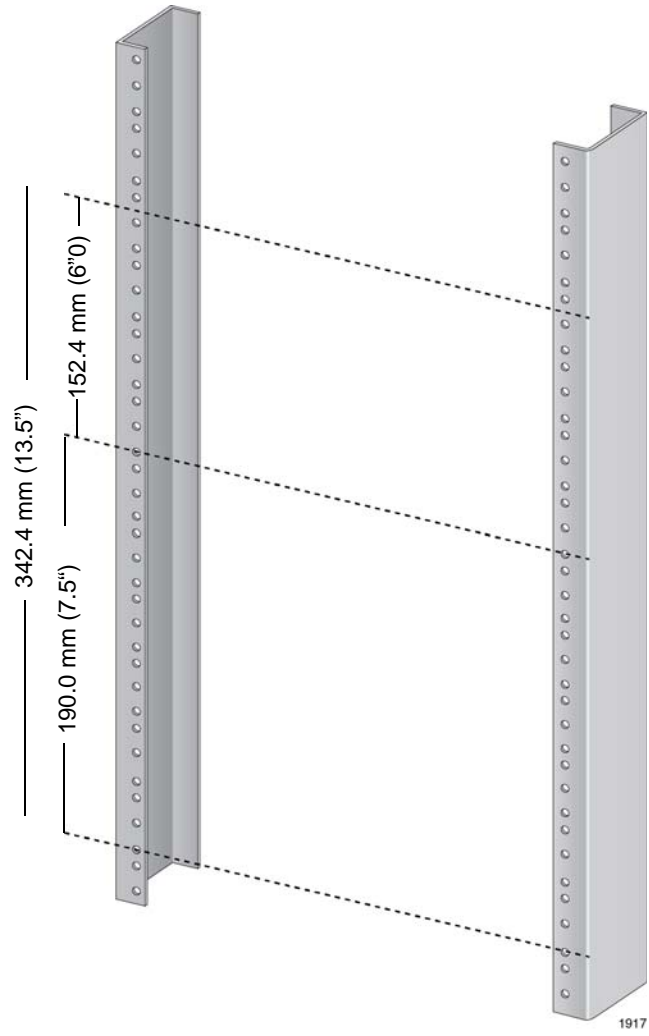

Figure 43. Reserving Vertical Rack Space
1. Reserve 190.0 mm (7.5") of vertical rack space for the installation of the AT-SBx8106 Chassis, as shown in Figure 43 on page 116.